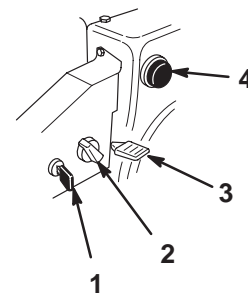

Figure 14
- Ignition Switch** (Fig. 14)—Insert the key before starting the engine. To stop the engine, remove the key.
- Choke** (Fig. 14)—Rotate the choke to the *On* position to start a cold engine. As engine warms up, gradually rotate the choke counterclockwise to the *Off* position.
- Throttle** (Fig. 14)—Move the throttle upward to increase the engine speed; move it downward to decrease the engine speed. Move the throttle to the *Stop* position to stop the engine.
- Primer** (Fig. 14)—Press the primer to pump a small amount of gasoline into the engine for improved cold-weather starting.
2. Remove the key from the ignition switch (Fig. 14).
3. Pull the choke knob off (Fig. 14).
5. Rotate the choke (Fig. 14) to the *On* position.
6. Insert the ignition key (Fig. 14).
7. Cover the hole in the center of the primer (Fig. 14) with your thumb and slowly push in the primer three times, pausing a moment between pushes.
10. After the engine starts, immediately rotate the choke (Fig. 14) to the $3/4$ position. As the engine warms up, rotate the choke to the $1/2$ position. When the engine warms up sufficiently, rotate the choke to the *Off* position.